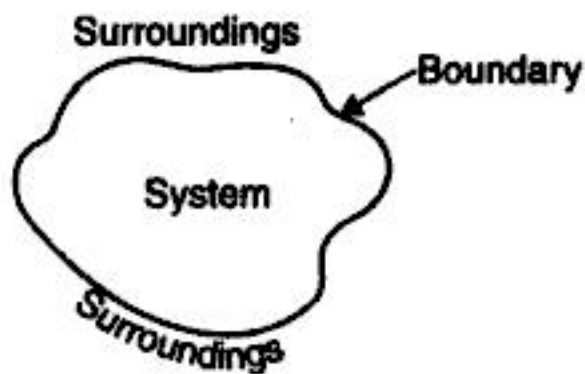

Fig. 1.1. The system.
**System.** A system is a *finite quantity of matter or a prescribed region of space* (Refer Fig. 1.1)